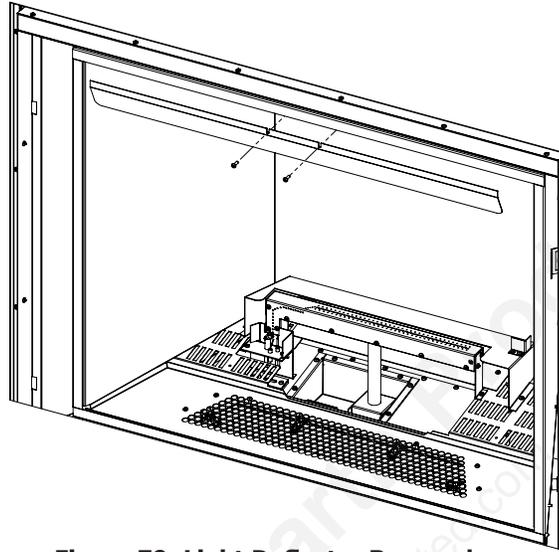

Figure 79: Light Deflector Removal
- Step 2.** Remove light deflector by removing two retaining T-20 screws (see Figure 79).